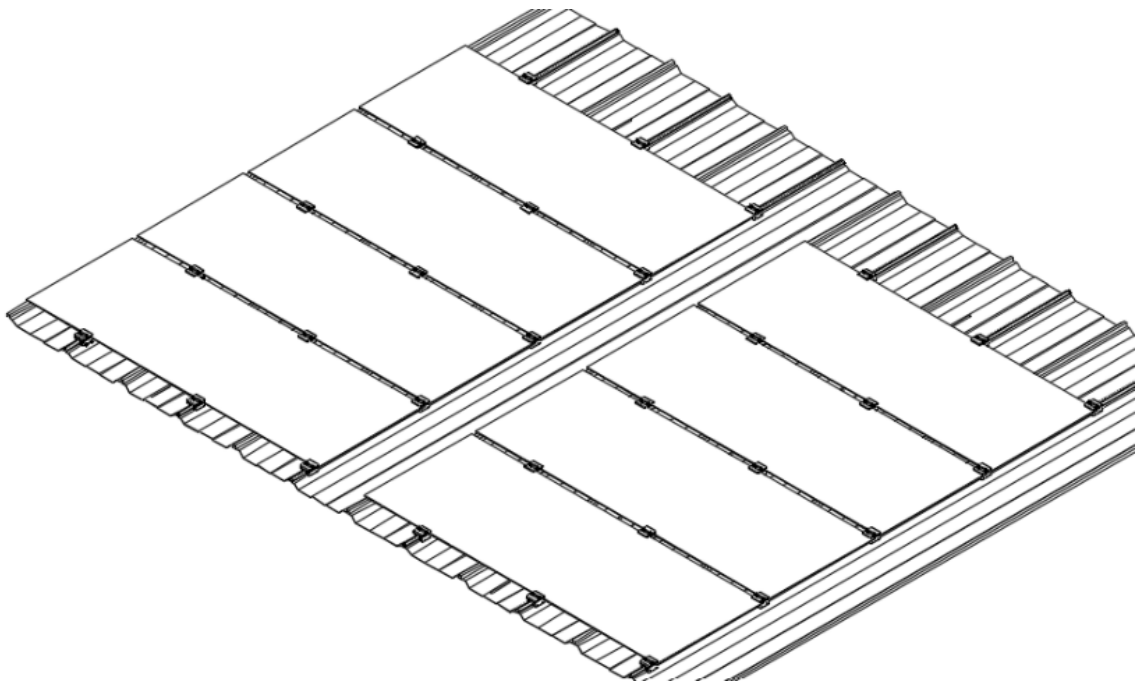

FIGURE 16
- ⑫ The second row of products is installed with reference to the first row of installation, and then the third and fourth rows are installed in turn until the installation of all products is complete (Figure 16);